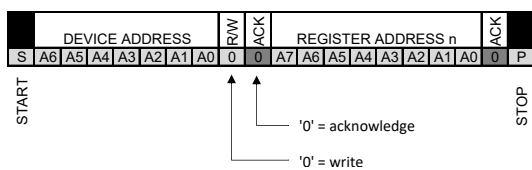

Figure 11: I2C read transaction - split format (1)
- in a separate transaction (i.e. issue a STOP bit and start a new read transaction with START bit, slave device address and read indication). See Figures 11 and 12.